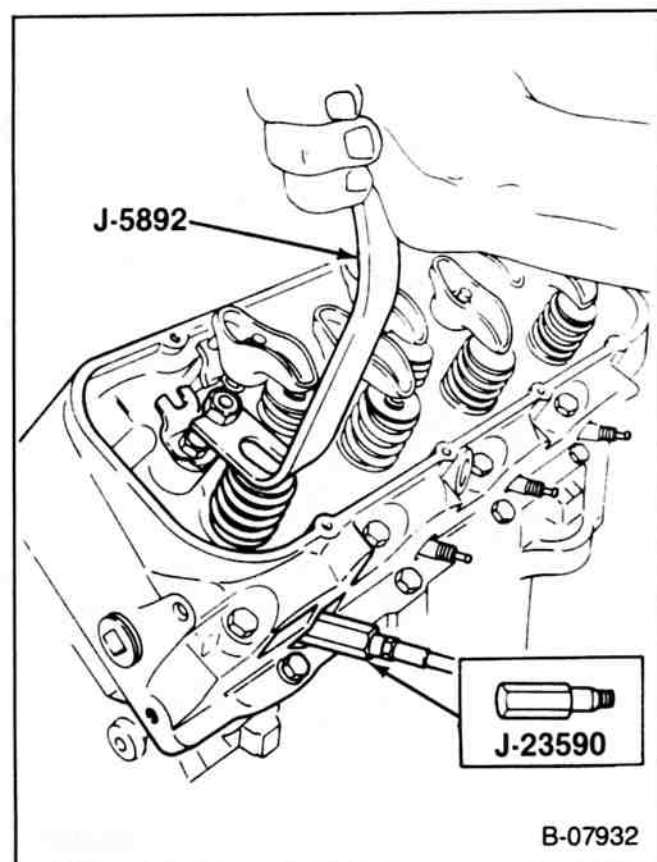

Figure 5—Compressing The Valve Spring
4. Valve keepers (26).
- Install a rocker arm nut (figure 5).
- Use J-5892-A to compress the valve spring (figure 5).
5. Cap (25) and spring with damper (23).
6. Seal (24).
1. New seal (24). Install the seal over the valve stem and seat it against the head.
2. Spring with damper (23), and cap (25).
3. Valve keepers (26).
- With air pressure applied to the cylinder with J-23590, compress the spring with J-5892-A (figure 5).